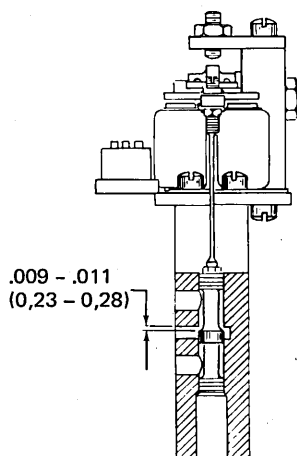

Figure 4-66. Space Valve in Start Position
4. With the space-start magnet energized, adjust the nuts at the top of the operating rod for .009 to .011 in. (0, 23 to 0, 28 mm) clearance between the top of the valve and the top surface of the rectangular port in the valve body (Figure 4-66).